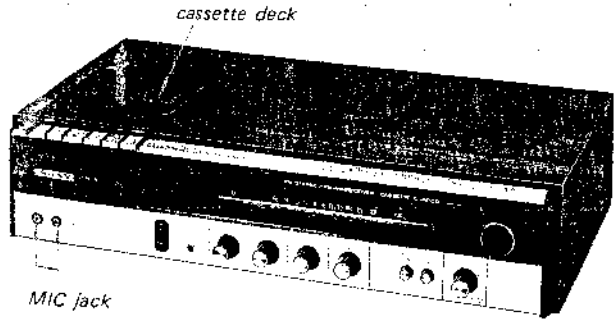

Fig. 2-4. Cassette deck removal
4. Remove the two MiC jack nuts by using a jack-outdriver or tweezers as shown in Fig. 2-4.
6. Carefully lift up the cassette deck from the wooden case in the direction shown by the arrow as shown in Fig. 2-4. This frees the cassette deck.